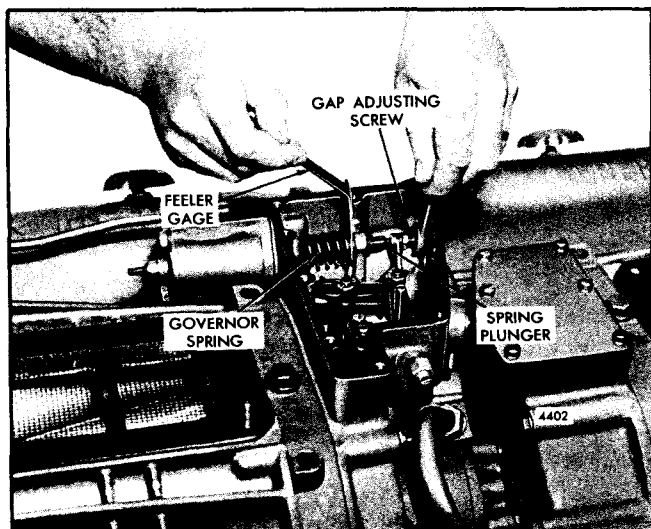

Fig. 3 - Adjusting Governor Gap
4. Insert a .006" feeler gage between the spring plunger and the plunger guide as shown in Fig. 3. If required, loosen the lock nut and turn the adjusting screw until a slight drag is noted on the feeler gage.